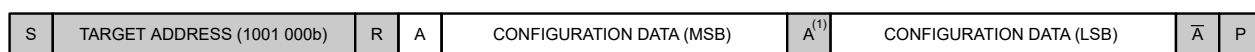

Figure 9-6. Read the Configuration Register to Check for OS = 1b
- Write the Configuration register as shown in Figure 9-6 to configure the device (for example, when using the ADS1015L, write MUX[2:0] = 000b, PGA[2:0] = 010b, MODE = 1b, and DR[2:0] = 110b) and start a single-shot conversion (OS = 1b).
Alternatively, poll the OS bit for a 1b as shown in Figure 9-6 to determine when the conversion result is ready for retrieval. This option does not work in continuous-conversion mode because the OS bit always reads 0b.